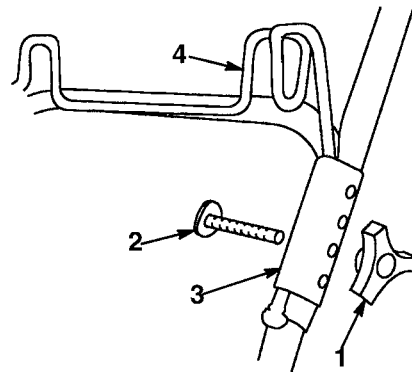

Figure 47
- Remove bag from rear bag hanger. Remove bolt(s) and knob(s) securing hanger clamps to handle sections (Fig. 47). Hanger clamps have four adjustment holes.